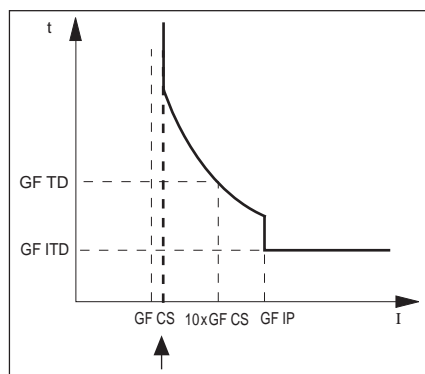

Figure 73: Overcurrent pickup check
**Time-Overcurrent Pickup Check** Follow these steps to check the time-overcurrent pickup (figure 73):